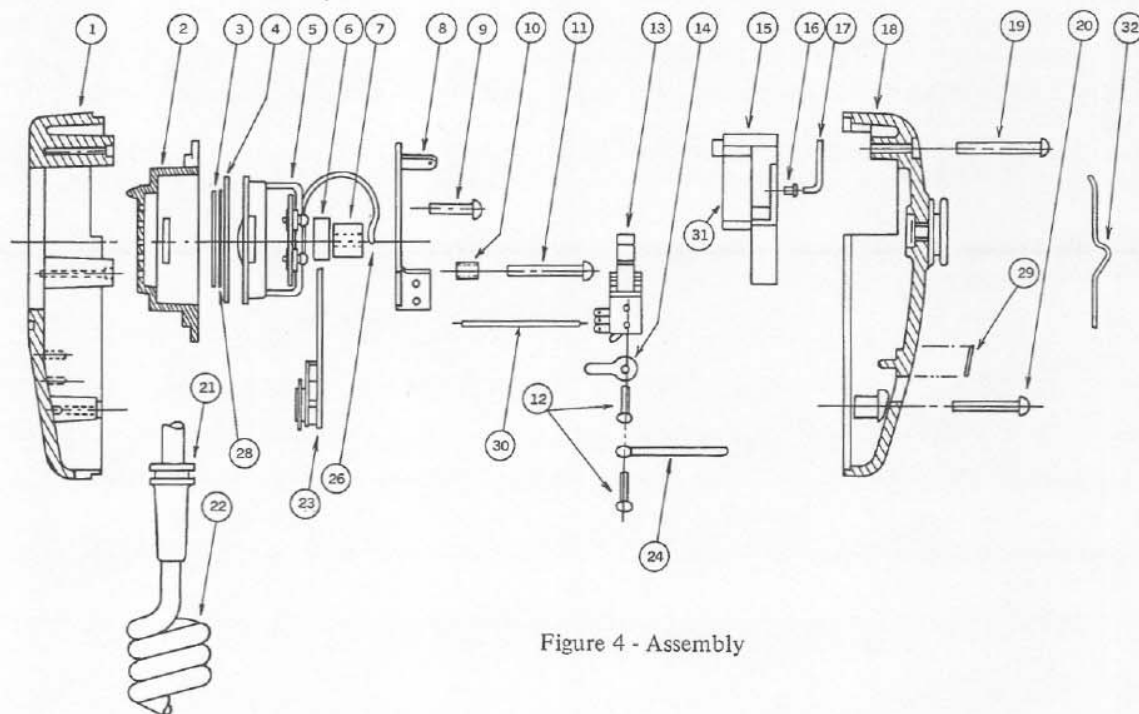

Figure 4 - Assembly
2. Disassembly. (See Figure 4)